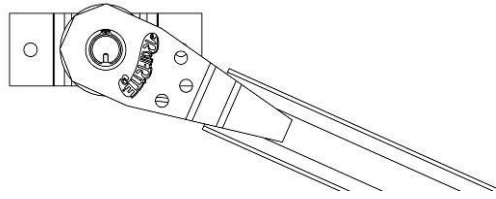

Fig 30
- 6) Bolt the Pivot Pin (installed in arms) to the mounting bracket. Note the slot in the pin should point down – see Fig. 30. Then Continue with Step 1 under Arm Assembly.